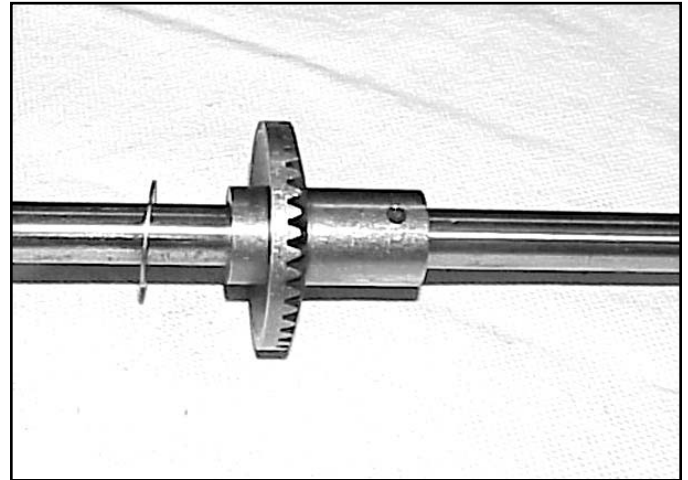

Fig 051
4. Slide the bearings and thrust washer off the axle. Drive the roll pin out and the bevel gear can be removed (Fig. 051).